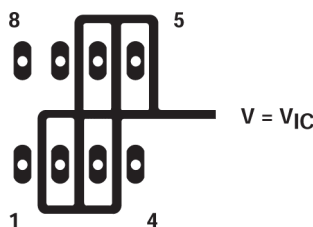
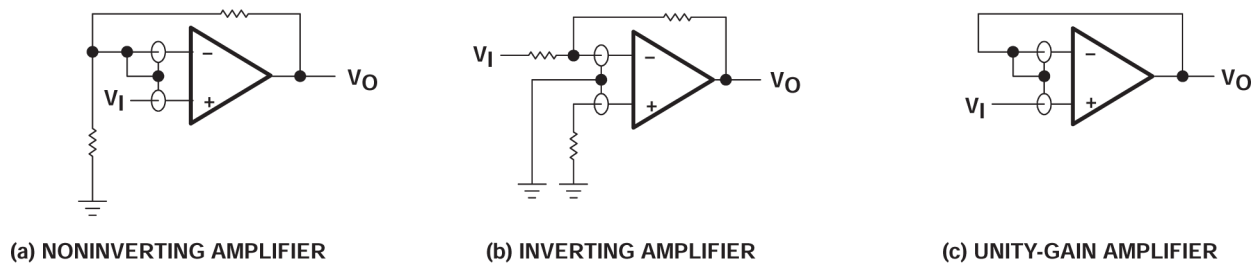

Figure 6-4. Isolation Metal around Device Inputs (P Package)
Figure 7-5. Guard-Ring Schemes
1. Isolate the device from other potential leakage sources. Use a grounded shield around and between the device inputs (see Figure 6-4). Leakages that can otherwise flow to the inputs are shunted away.
Because of the extremely high input impedance and resulting low bias-current requirements, the TLC27Lx are an excellent choice for low-level signal processing. However, leakage currents on printed-circuit boards and sockets sometimes easily exceed bias-current requirements and cause a degradation in device performance. As best practice, include guard rings around inputs (similar to those of Figure 6-4 in the *Parameter Measurement Information* section). Drive these guards from a low-impedance source at the same voltage level as the common-mode input (see Figure 7-5).